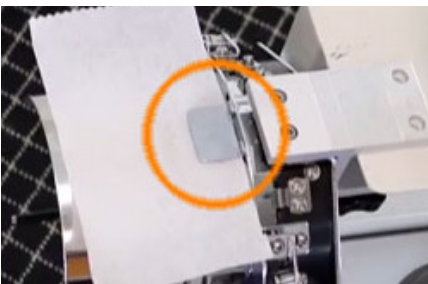

Figure 64
5. Place the backing under the bill stop (the metal tab on the top of the ring). **See Figure 64.**